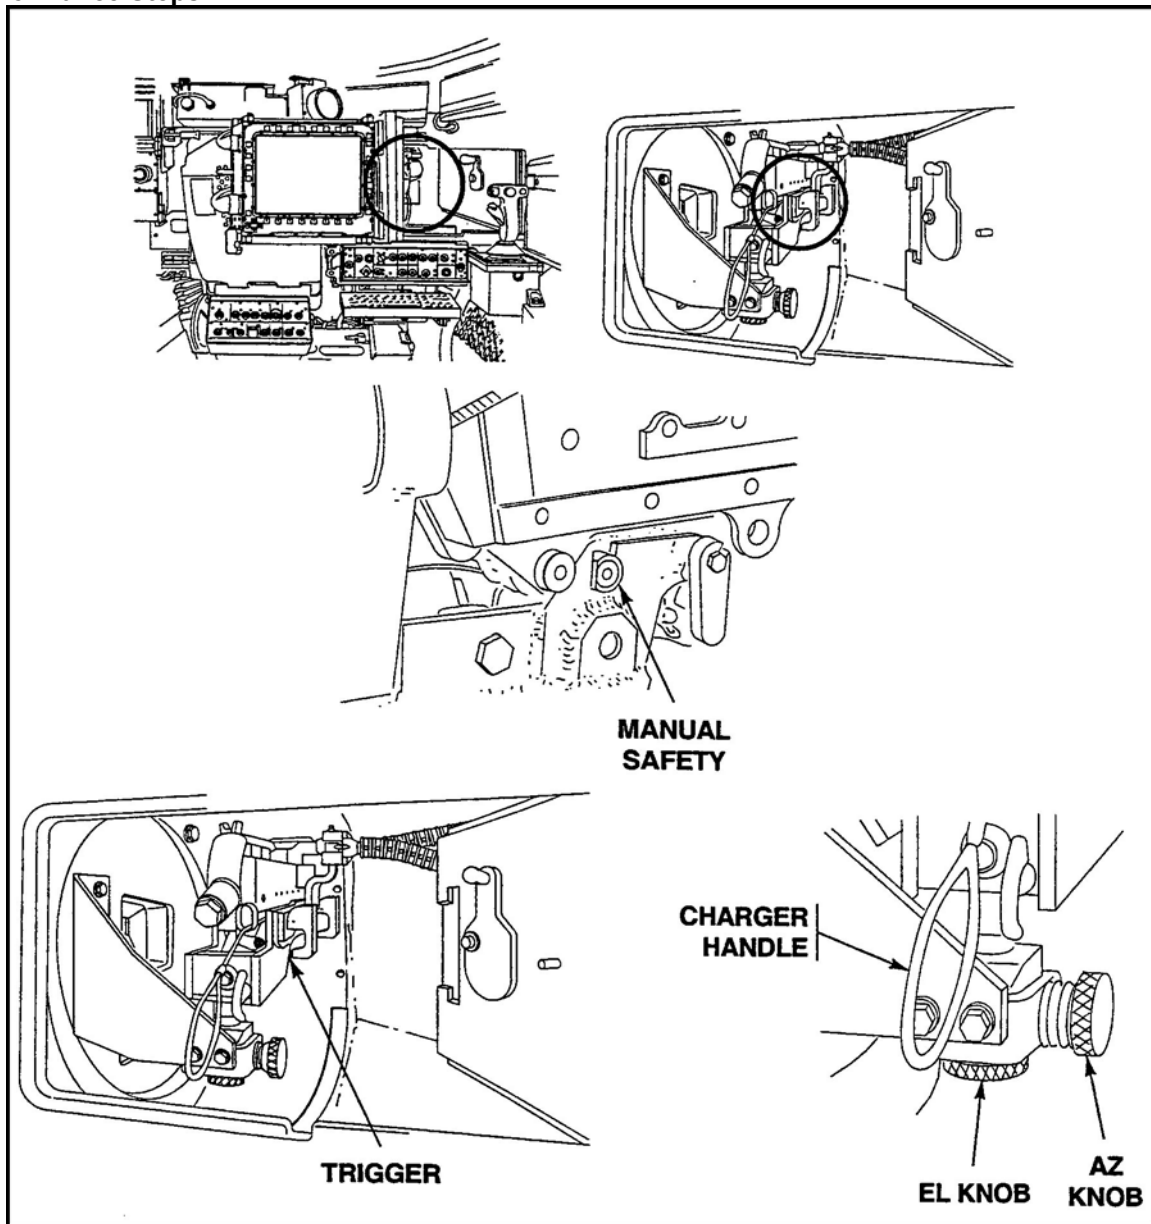

Figure 30. M240C elevation and azimuth knobs.
- (6) The vehicle commander will observe the strike of the rounds using the CIV.
- (7) Fire a burst of 10-15 rounds at the target.
- (8) Open the M240C coaxial machine gun access doors and manually move the coaxial machine gun azimuth and elevation knobs to move the strike of the rounds to the center mass of the 7.62mm zero target (Figure 30).